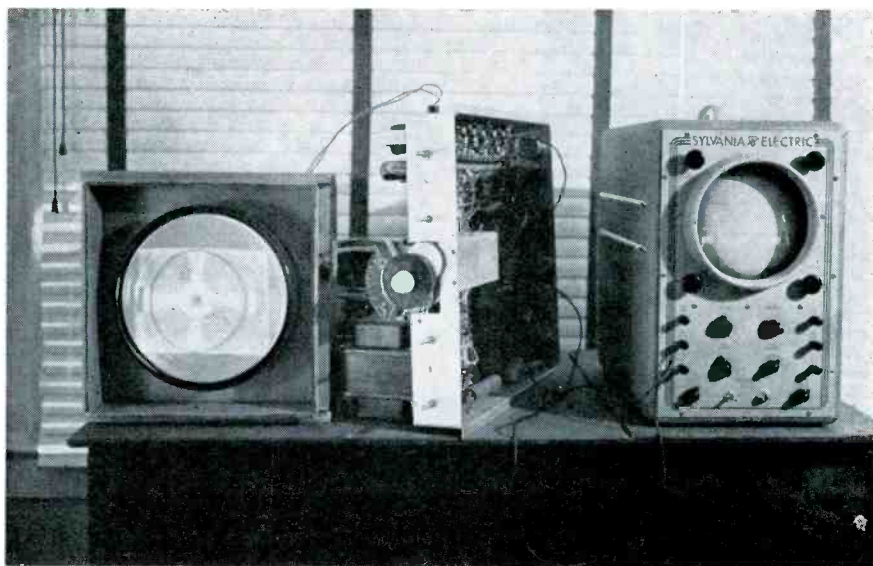

Fig. 8—Television Assembly Champion Model and Sylvania CRO used in tests.
**T**HE final installment in this series deals with the practical methods that may be employed in observing the various synch and signal waveforms on a cathode ray oscilloscope discussed in the first installment. *Figure 8* illustrates a typical set-up for this purpose. When making these tests it is advisable to set up the receiver so that all test points are readily accessible.